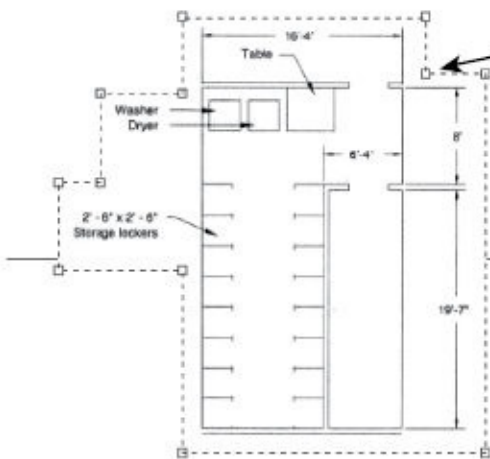

FIGURE 13.6 Adjusting the boundary of a clipped image
5. Select the points shown in the top image in Figure 13.6 and then press ↵. The raster image is clipped to the boundary that you created, as shown in the
second image in Figure 13.6.
2. Click a grip in the upper-right corner, as shown in the bottom image in Figure 13.6.